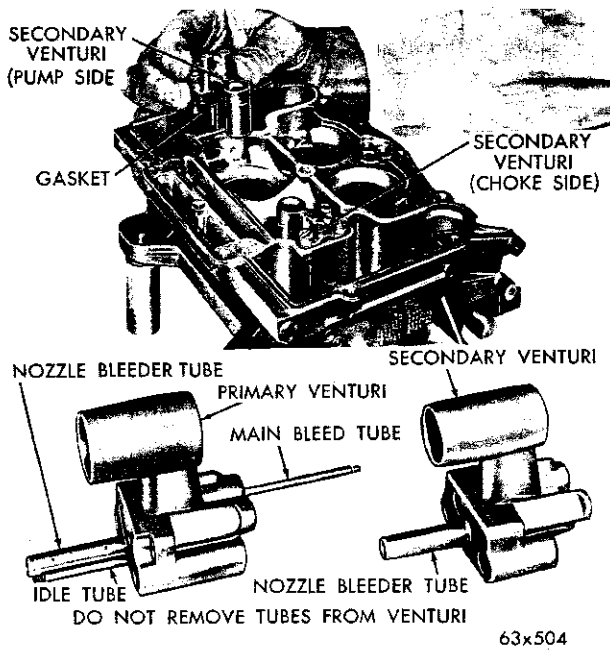

Fig. 42—Removing or Installing the Secondary Venturi
(5) Remove the screws that attach the secondary venturi (choke and pump side) to the main body. Lift the secondary venturi assemblies straight up and away from the body, as shown in Figure 42.